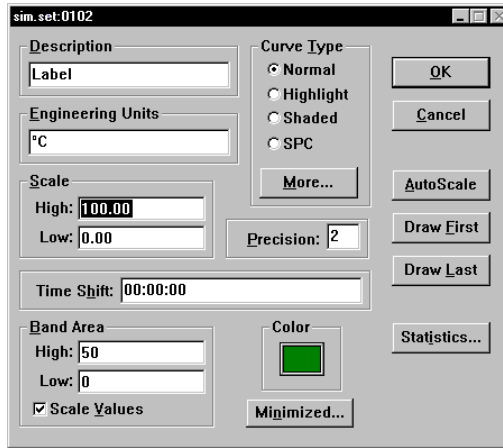

Figure 14.
1. Double-click on one of the small chart icons to the right of the chart. A dialog box similar to that shown in Figure 14 will appear.